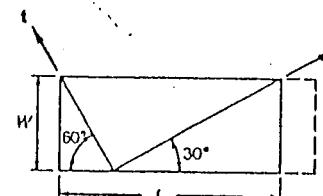

Fig. P2.38
2.38. A thin rectangular plate is deformed uniformly into another rectangle as shown in Fig. P2.38. The extensional strain along its length is .02 and the width remains unchanged. Compute approximately the shear strain γ_{uu} .